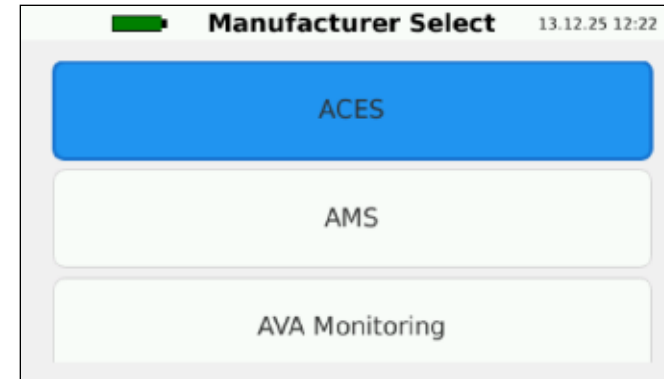
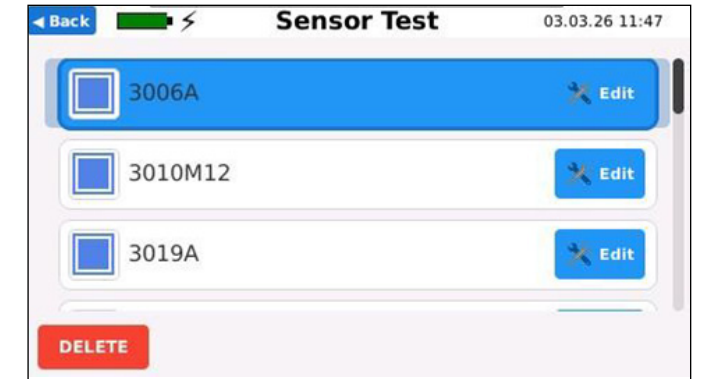

Figure 43
Figure 44
4. Then select the manufacturer (Figure 43) and the sensor (Figure 44) to run an auto test.